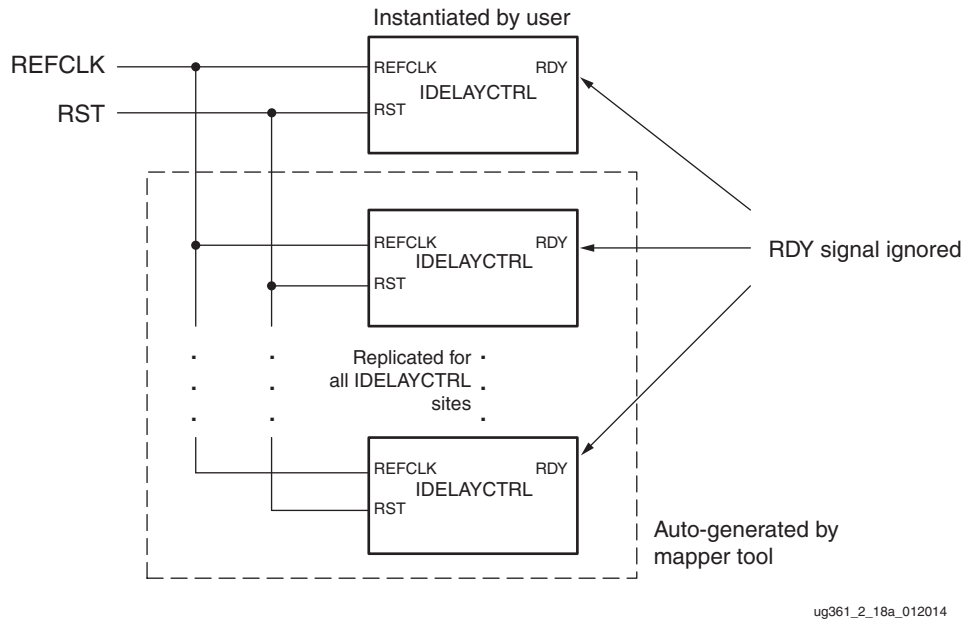

Figure 2-19: Instantiate IDELAYCTRL Without LOC Constraints - RDY Unconnected
- The VHDL and Verilog use models for instantiating an IDELAYCTRL primitive without LOC constraints leaving the RDY output port unconnected are provided in the Libraries Guide. The resulting circuitry after instantiating the IDELAYCTRL components is illustrated in Figure 2-19.